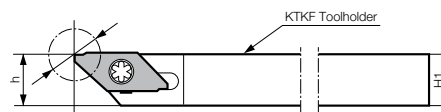

Fig.2 When a TKF-NB insert is attached
2. If the 0.04" adjustment is not possible on your automatic lathe, use the TKF-NB (Ref. Fig.2).